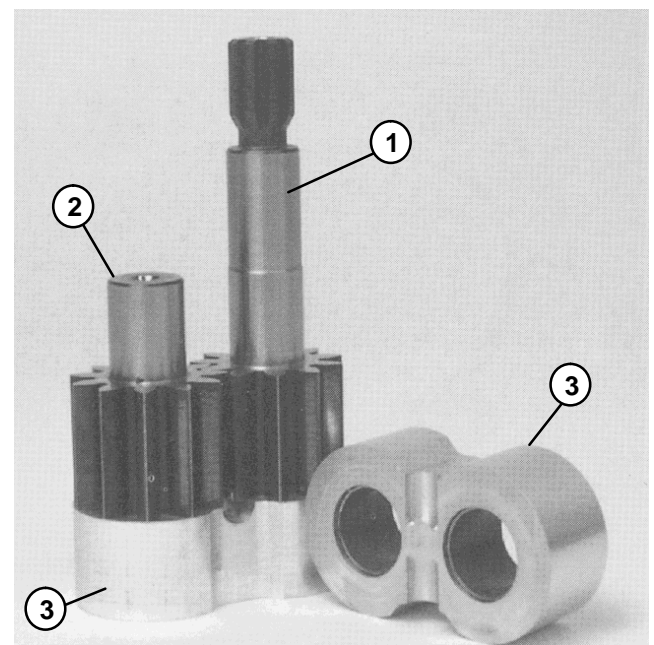

Figure 18f
3. Inspect drive gear, idler gear and bearing blocks (Fig. 18f) for the following: